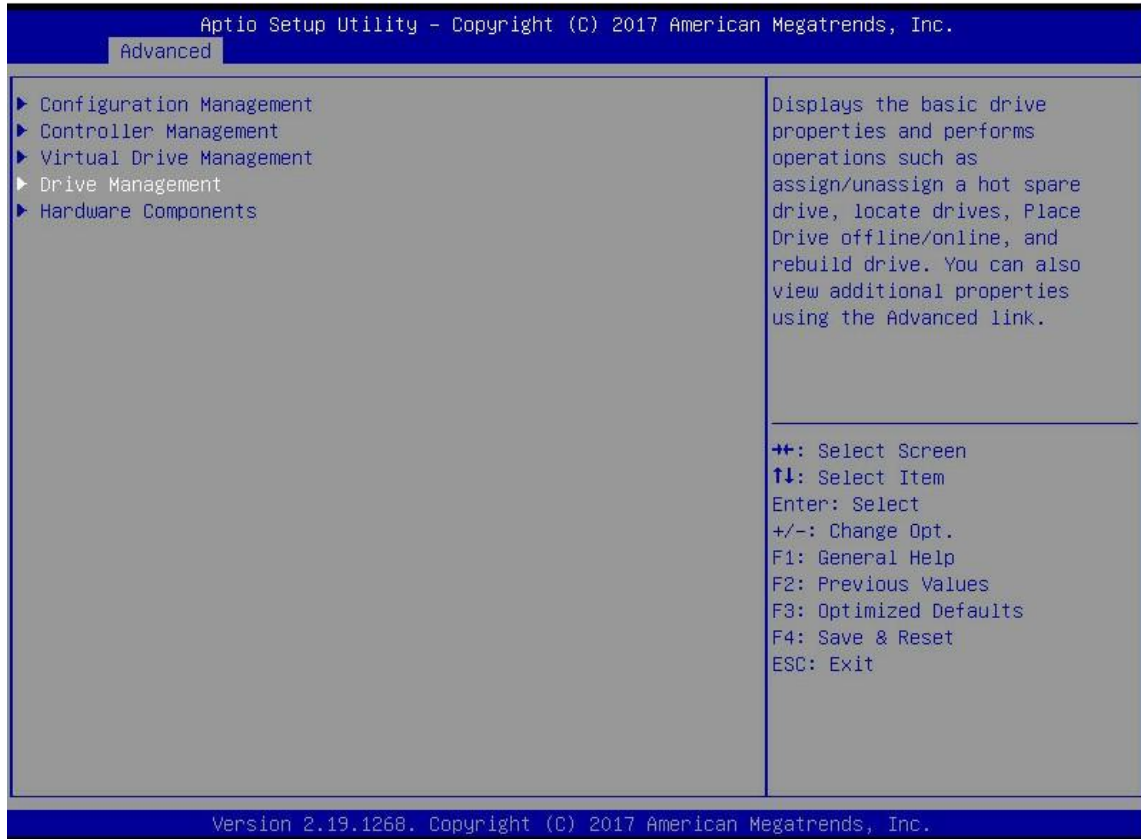

Figure 6-2
- a) As shown in Figure 6-2, select drive management in the raid card configuration interface and press enter.